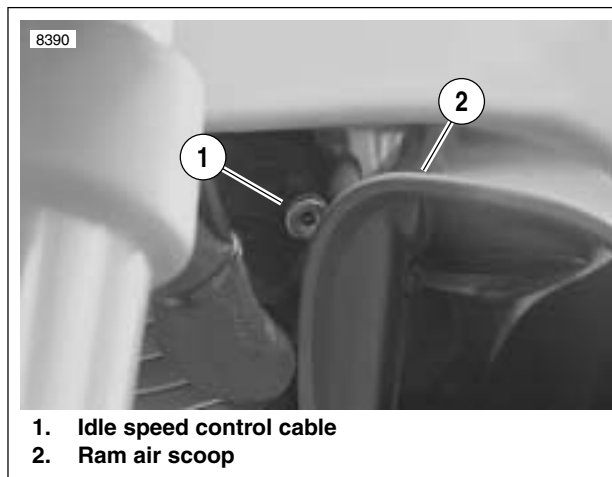

Figure 4-30. Idle Adjustment Cable
See Figure 4-30. The idle speed control cable (1) is located on the left side of the vehicle between the front cylinder head and the ram air scoop assembly (2). Idle speeds are listed in 4.1 SPECIFICATIONS. A 3/16 in. allen wrench may be used to turn adjuster knob.